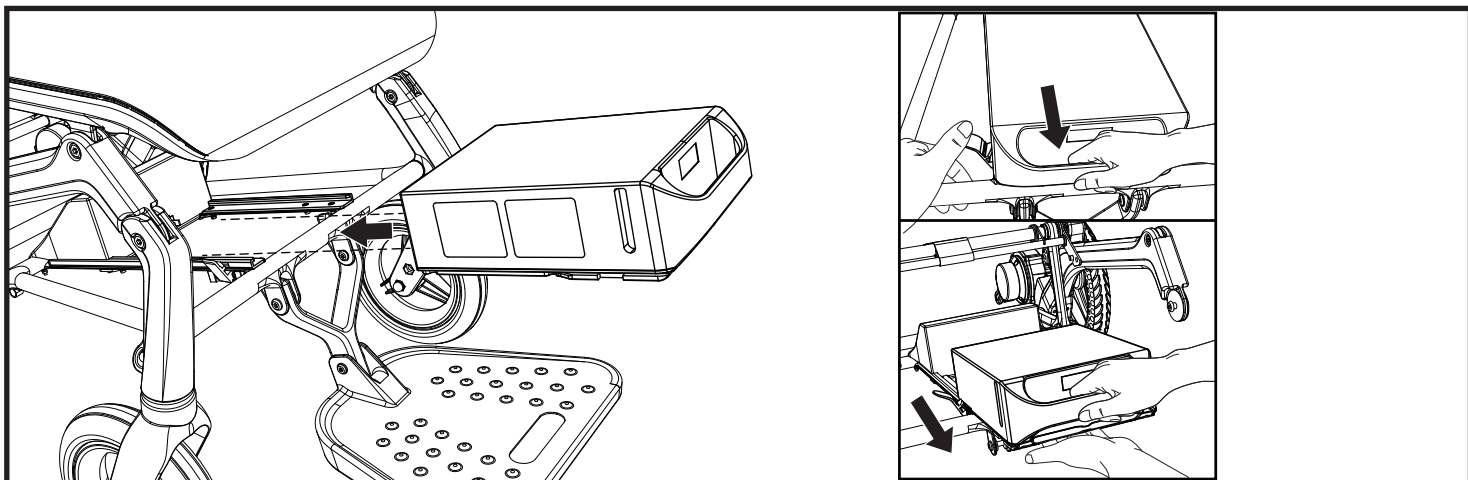

Figure 4. Battery Box Removal/Installation
2. Install the battery box into the battery tray by sliding it into the front of the frame beneath the seat. Push the battery box forward along the U-shaped fixing strip and align it with the front terminal until it clicks into place. **See figure 4.**
4. Grasp the battery box handle and push down on the locking tab to disengage the box from the power base, then slide the battery box out of the power base. **See figure 4.**